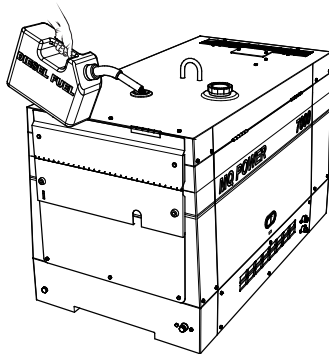

Figure 15. Adding Fuel
2. If fuel is low, remove the fuel cap (Figure 15) located on top of the generator and replenish with clean #2 diesel fuel.